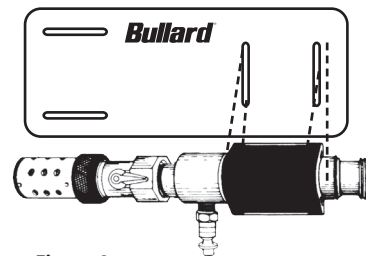
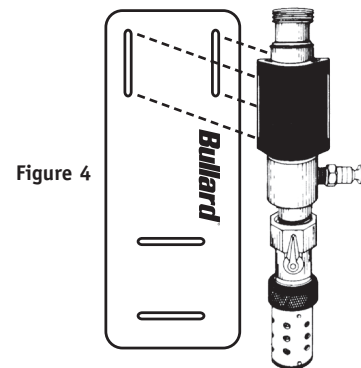

Figure 3
Figure 4
2. If the device will be worn in the horizontal position, align the tube on the heat shield as shown in **Figure 3**. If the tube will be worn in the vertical position, align the tube on the heat shield as shown in **Figure 4**.